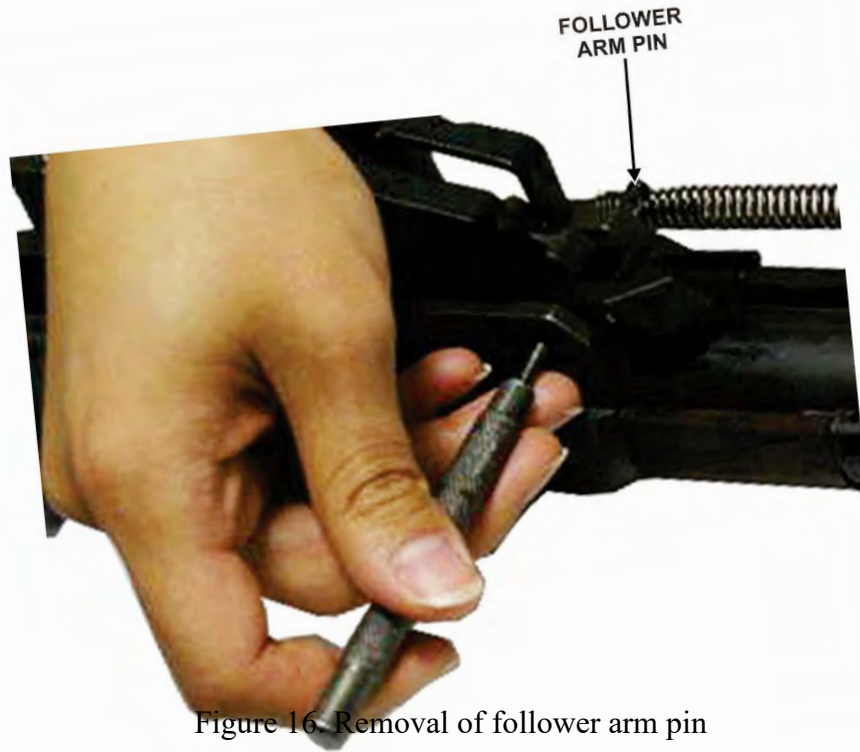

Figure 16. Removal of follower arm pin
- Using a 1/8 inch punch, remove the follower arm pin by pushing on it from the small side of the pin (the left side of the rifle when it is upright and pointed downrange). The large end of the pin can then be grasped and fully removed (fig 16).